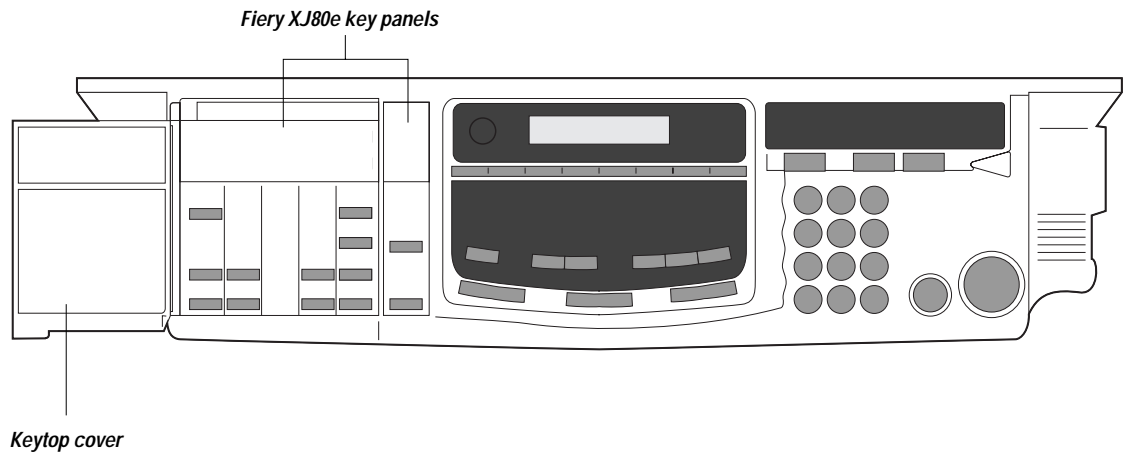

Figure 2-22 Operation Panel
2. *Open the keytop cover on the Operation Panel (see Figure 2-22).*